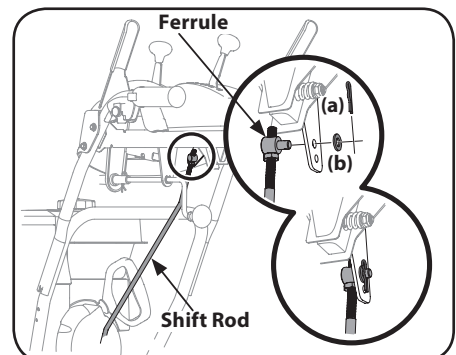

Figure 2-40
8. Remove cotter pin (a) and washer (b) from ferrule on end of shift rod. See Figure 2-40 inset.